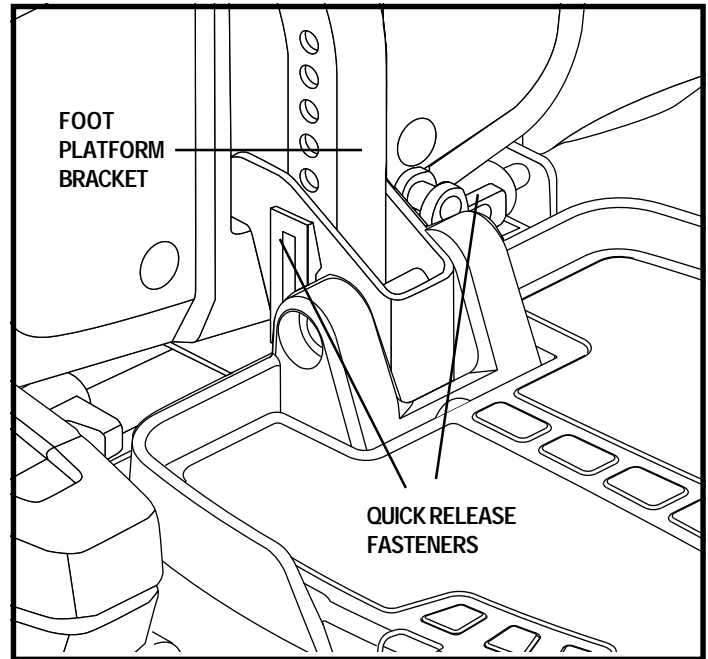
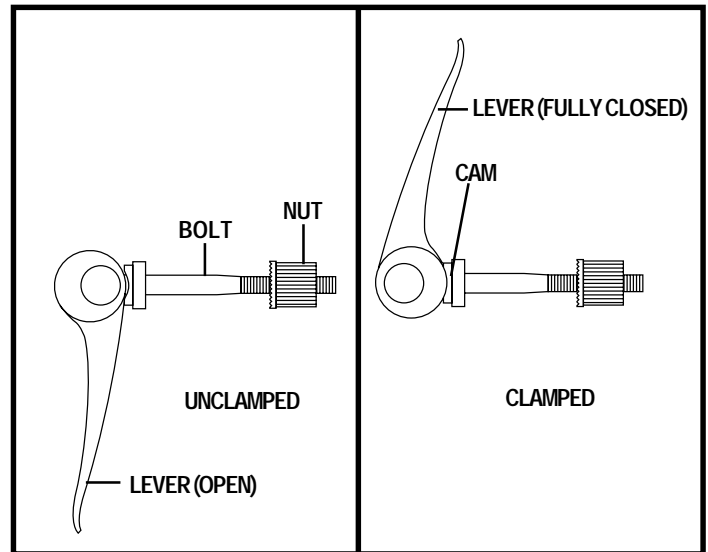

Figure 18. Foot Platform Adjustment
Figure 19. Quick Release Fastener Operation
1. Remove the quick release fasteners from the foot platform bracket. See figure 18.
Quick Release Fasteners: The foot platform is attached to the power base with two quick release fasteners. See figure 18. Each quick release fastener consists of a bolt, a lever, and a nut. See figure 19. The lever has a cam on the end that allows it to clamp into place. The quick release fastener has two states: clamped and unclamped. When the lever is open, the quick release fastener is unclamped. When the lever is closed, the quick release fastener is clamped.